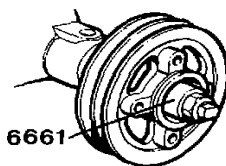

Fig. 191.
7. Screw the shaft of tool 6661 into the shaft journal. Fit the belt pulley onto the shaft journal, assemble the sleeve and the nut and press the belt pulley into place (fig. 191).